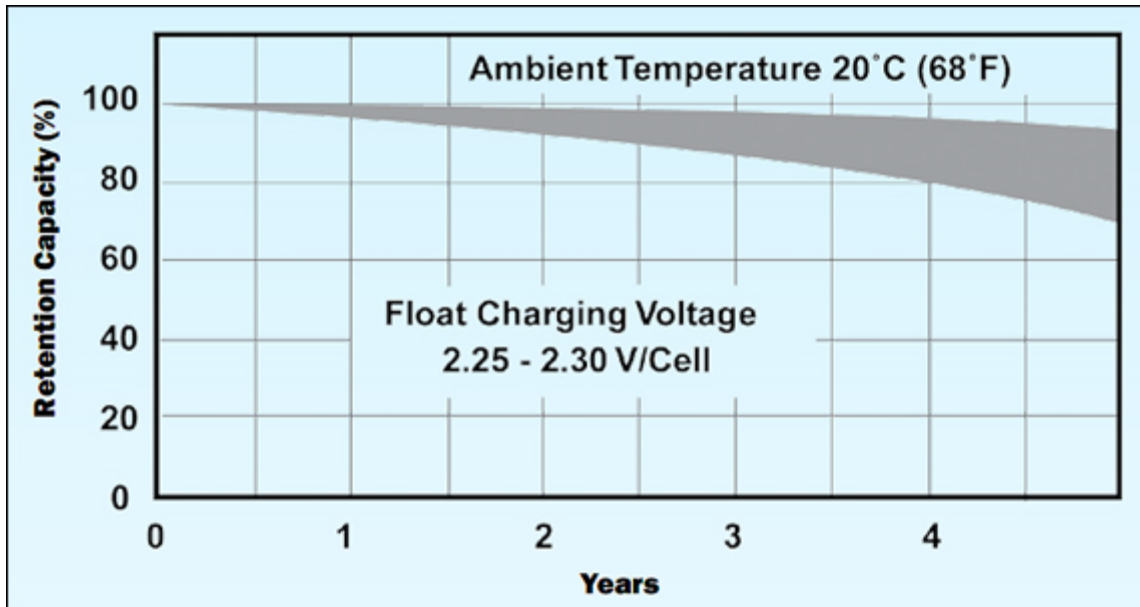

Figure 3: Capacity loss on standby [2]
**Figure 3** illustrate the life of a lead acid battery that is kept at a float voltage of  $2.25\text{V}$  to  $2.30\text{V}/\text{cell}$  and at a temperature of  $20^\circ\text{C}$  to  $25^\circ\text{C}$  ( $60^\circ\text{F}$  to  $77^\circ\text{F}$ ). After 4 years of operation permanent capacity losses become visible, crossing the 80 percent line. This loss is larger if the battery requires periodic deep discharges. Elevated heat also reduces battery life. (See also BU-806a: How Heat and Loading affect Battery Life)